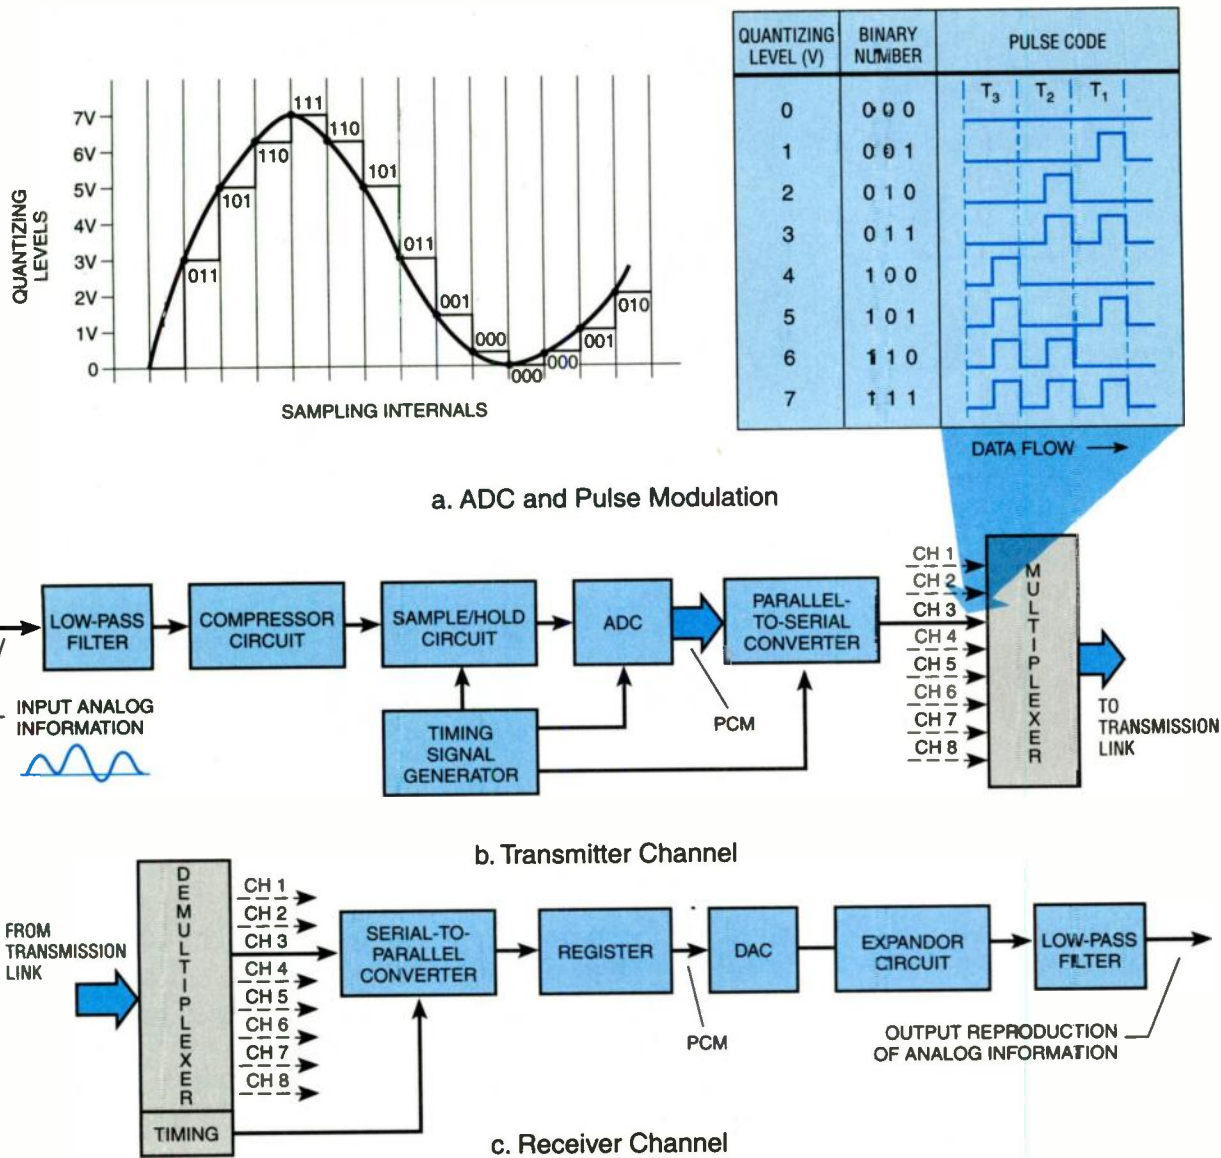
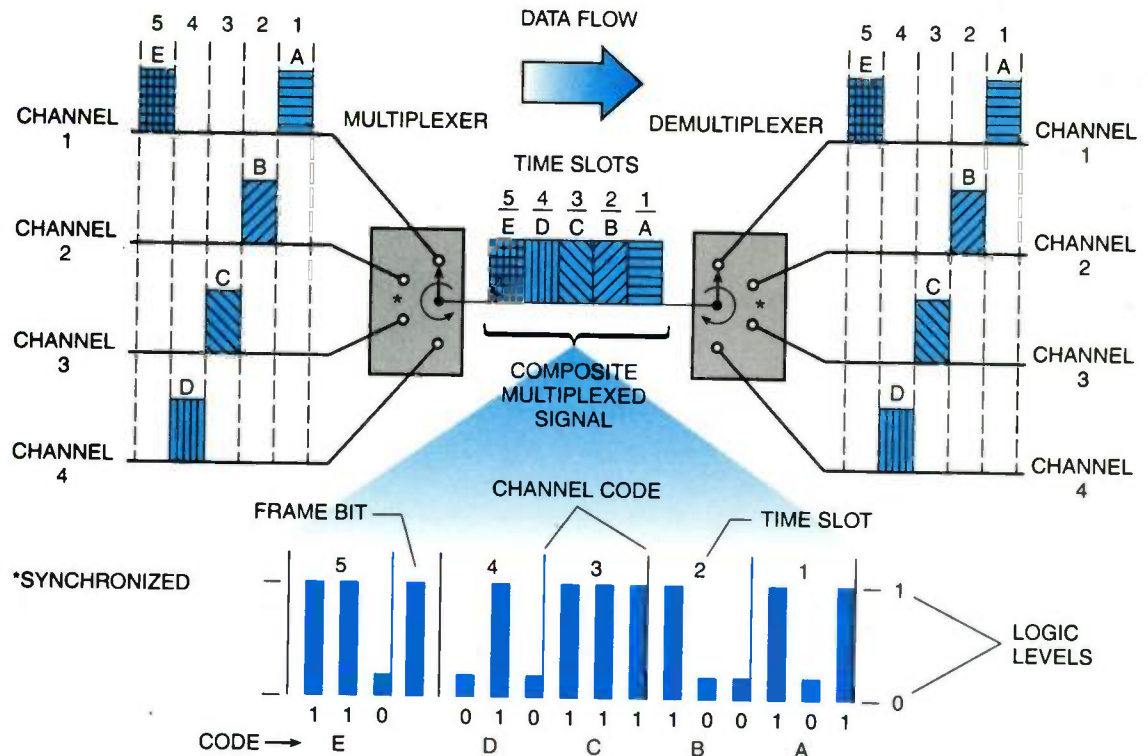
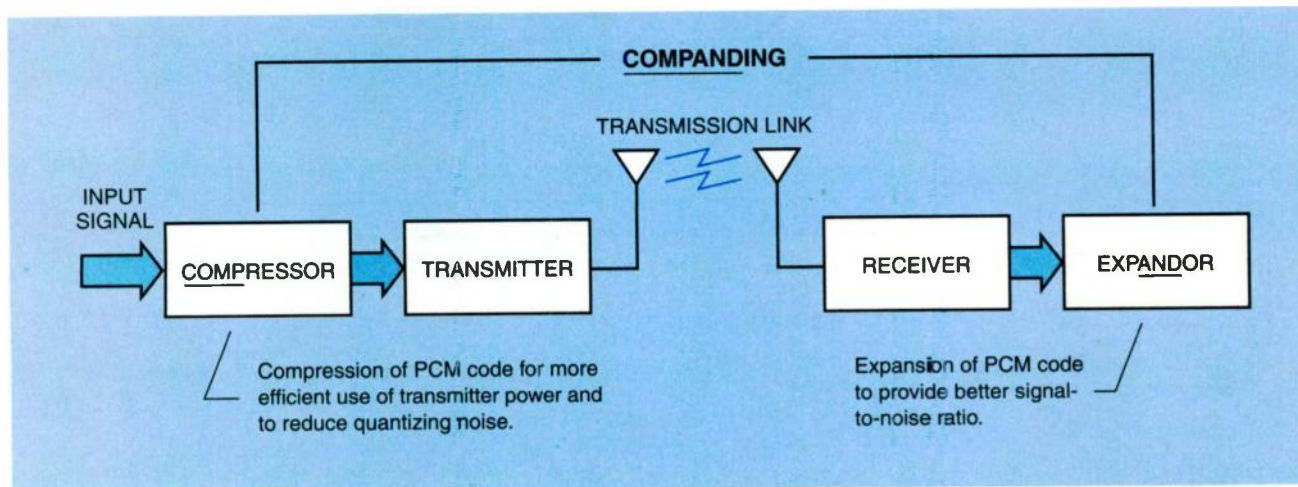

Figure 9-3. Multiplexed PCM digital communication system.
Figure 9-4. Time division multiplexing using four channels and 3-bit codes. Each group of four channels comprises a frame.
Figure 9-5. Companding means compressing the signal at the transmitter and expanding it at the receiver.
Earlier, we discussed FDM for analog systems. Now we'll discuss *time division multiplexing* (TDM) for digital systems as illustrated in *Figure 9-4*. Many channels can be multiplexed, but we will limit the number of channels to four for simplicity.
Notice in Figure 9-4 that the switches first select Channel 1, then Channel 2, then Channel 3, then Channel 4. Thus, Channel 2's 3-bit code is placed behind Channel 1's code in time sequence, Channel 3's code behind Channel 2, and Channel 4's code behind Channel 3. When all four channels have been multiplexed, that group of signals is called a *frame*. The multiplexer adds a frame bit after the data of Channel 4 to identify the start of a new frame. The frame bit is used by the demultiplexer to synchronize the timing. The receiver sees the 3-bit code from Channel 1 first, then the 3-bit code from Channel 2, then from Channel 3, then from Channel 4. After Channel 4, the new 3-bit code for Channel 1 appears and the cycle repeats. The repetition rate of the cycle is the *multiplexing frequency*.
bandwidth (bit rate) depends on  $f_M$ , the number of channels (Ch) and the number of code bits (N) per channel. The PCM/TDM system of Figure 9-3 uses pulses that are constant in amplitude, duration or width, and relative position. The code generated by the ADC represents the value of the channel signal at the time of the sampling pulse. One can easily see that if the input signal is a digital code itself, the n-bit code could be multiplexed into a time slot and handled in the same way as the signals in Figure 9-4. In fact, if the n-bit codes are compatible, and the timing is compatible, the digital codes for data and the digital codes for analog input signals could be mixed.
Notice in Figure 9-3 that there is a compressor circuit in the transmitter and an expander circuit in the receiver. These are used to accomplish a process called *companding*, a name derived from COMPressor and expANDor. Companding is used to reduce channel noise caused by digitization and to improve transmitter efficiency. Figure 9-5 indicates the process. A common PCM system might compress a 12-bit linear code to an 8-bit code, and then expand it to 12 bits again. The 12-bit to 8-bit compression and the 8-bit to 12-bit expansion can be accomplished with digital logic circuits, but a simple and economical way is to use a ROM containing a look-up
Filters restrict the passage of certain signal frequencies and allow others to pass. A low-pass filter allows passage of low frequencies while high frequencies are restricted. (We saw low-pass filters used in *Figure 9-3*.) A high-pass filter allows passage of high frequencies while low frequencies are restricted. A band-pass filter restricts some lower frequencies and some higher frequencies while allowing passage of a band of frequencies in between.